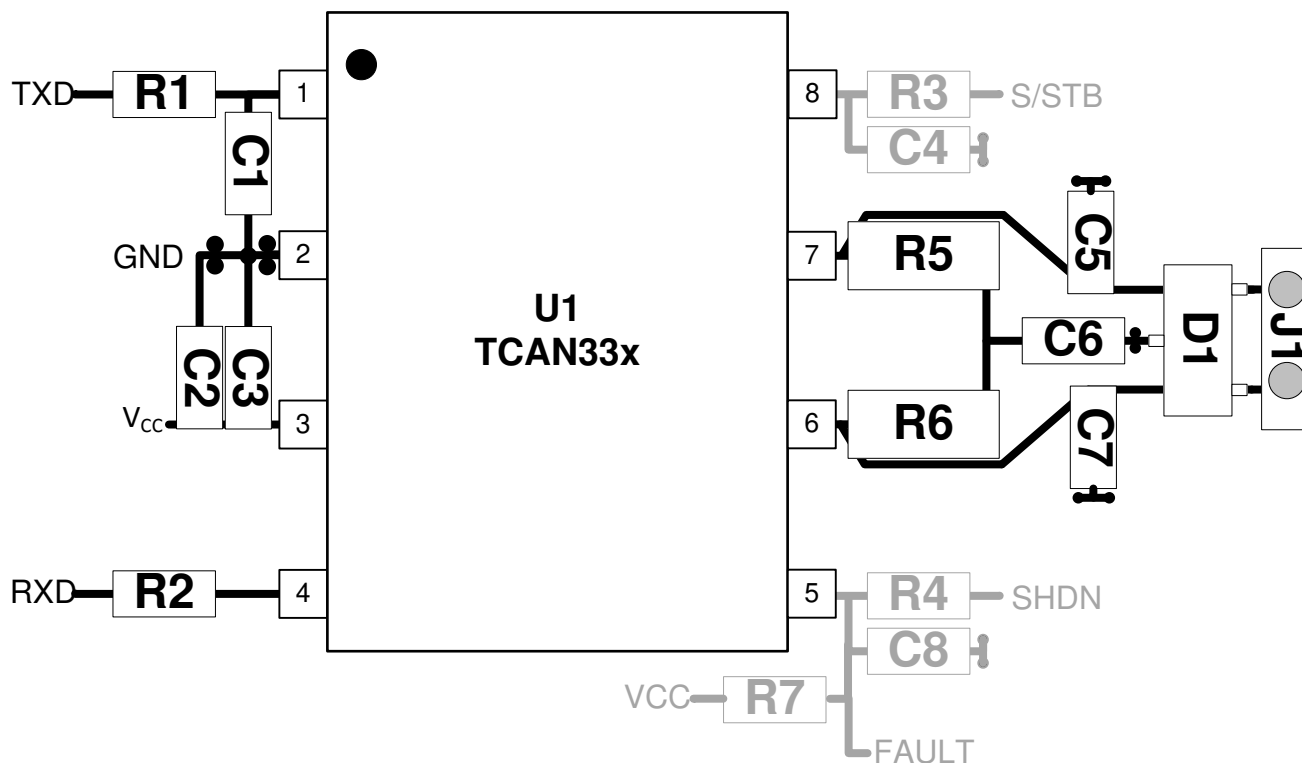

Figure 40. Layout Example
- Transient Protection on CANH and CANL: Transient Voltage Suppression (TVS) and capacitors (D1, C5 and C7 shown in Figure 40) can be used for additional system level protection. These devices must be placed as close to the connector as possible. This prevents the transient energy and noise from penetrating into other nets on the board.
- Bus Termination on CANH and CANL: Figure 40 shows split termination where the termination is split into two resistors, R5 and R6, with the center or split tap of the termination connected to ground through capacitor C6. Split termination provides common mode filtering for the bus. When termination is placed on the board instead of directly on the bus, care must be taken to ensure the terminating node is not removed from the bus, as this causes signal integrity issues if the bus is not properly terminated on both ends.